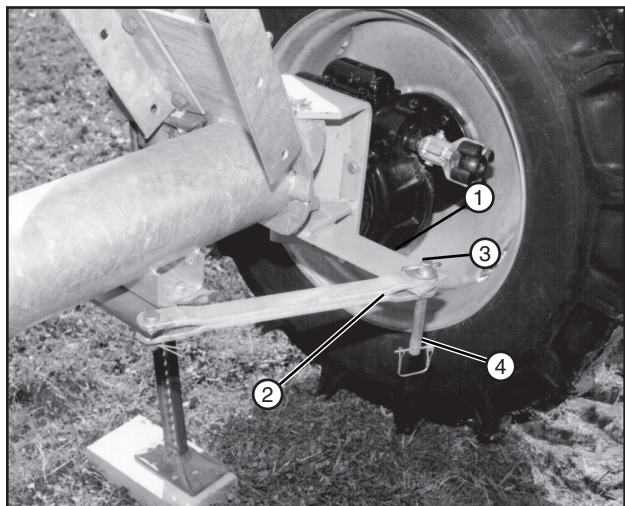

Figure 64-2 1. Steering Arm 2. Tow Link Bar Yoke 3. Torque Pin 4. Lynch Pin
2. Position steering arm in tow link bar yoke, align holes, then attach steering arm to tow link bar with torque pin. Secure torque pin with lynch pin. See figure 64-2.